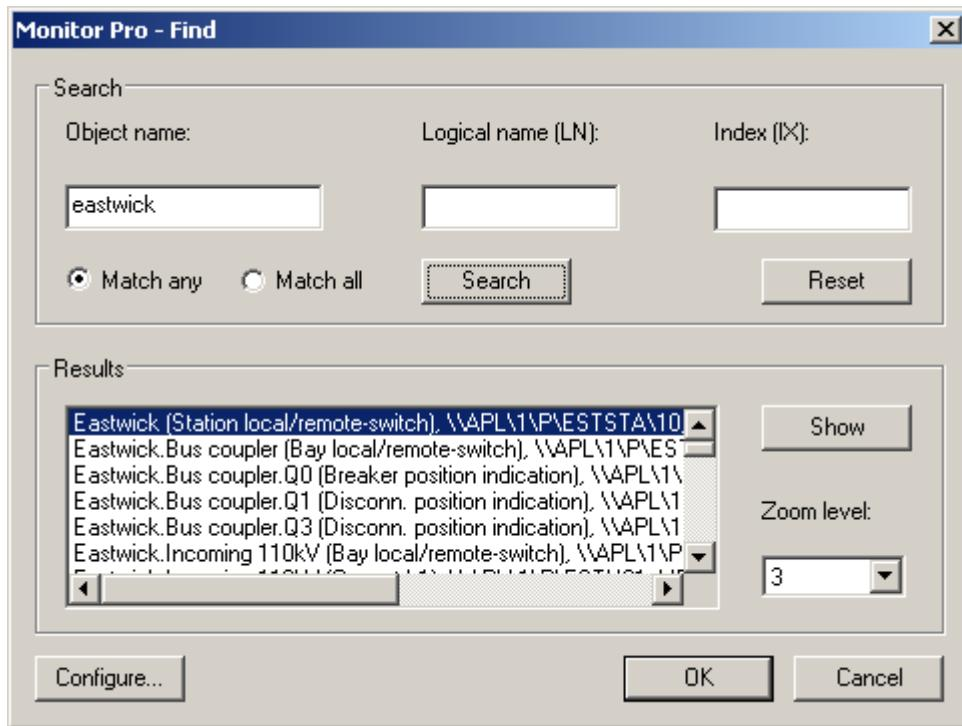

Figure 26: Find process objects
Searches can be made using the **Object name**, or part of it, the **Logical name (LN)** or **Index (IX)**. Select the required object from the search result and *click Show* to display. To change the zoom level, *select* the value from **Zoom level**, then *click Show* to display the object, see Figure 26.